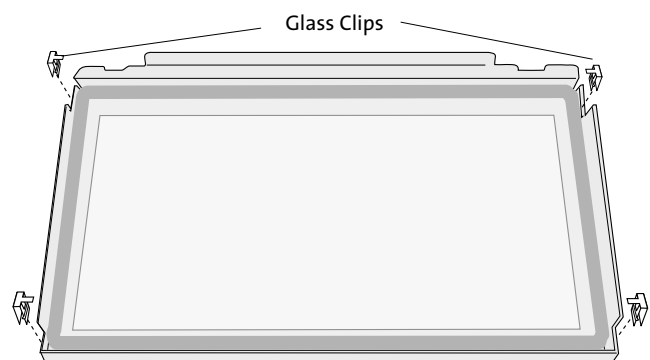

Figure 40. Use small pliers to pry the clips off of the glass panel frame.
3. The glass panel is held in place by four compression clips. Use a screwdriver or small pliers to pry these up off the edge of the glass retaining walls. See fig. 40.